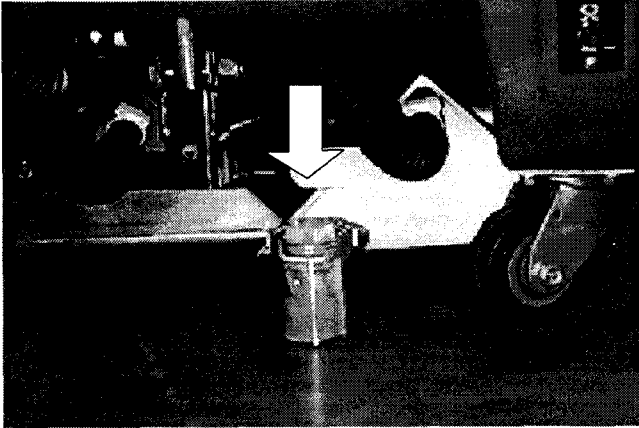

FIG. 31.
- Unscrew and remove inline strainer filter (clear bowl). Filter is located underneath at rear of machine. (Figure 31)